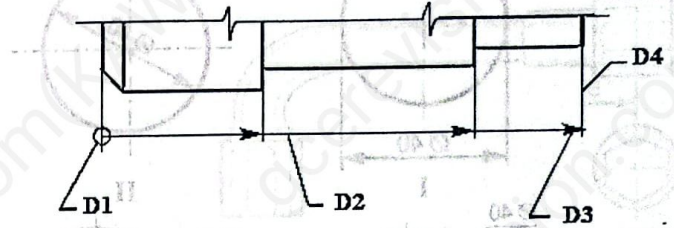

Figure 9
15. In the dimensioning shown in figure 9 below, choose the name referring to D2.